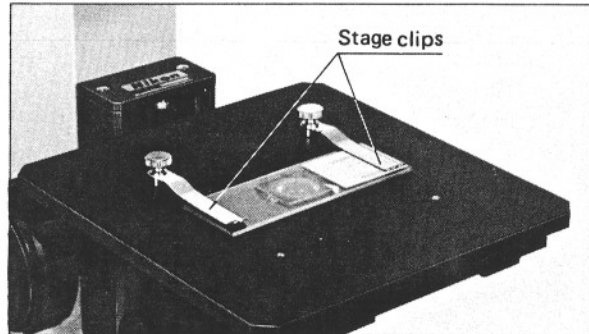

Fig. 16
- 2) When not using the mechanical stage, hold the specimen securely with the two stage clips. (Fig. 16)